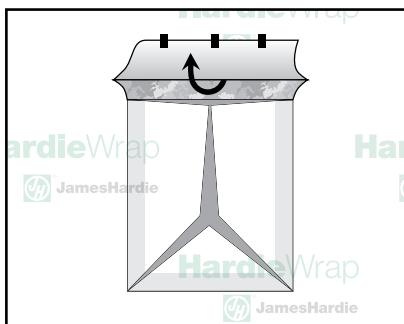

figure 4
**Step 2:** Fold the top flap up and out of the way and fasten temporarily (fig. 4).